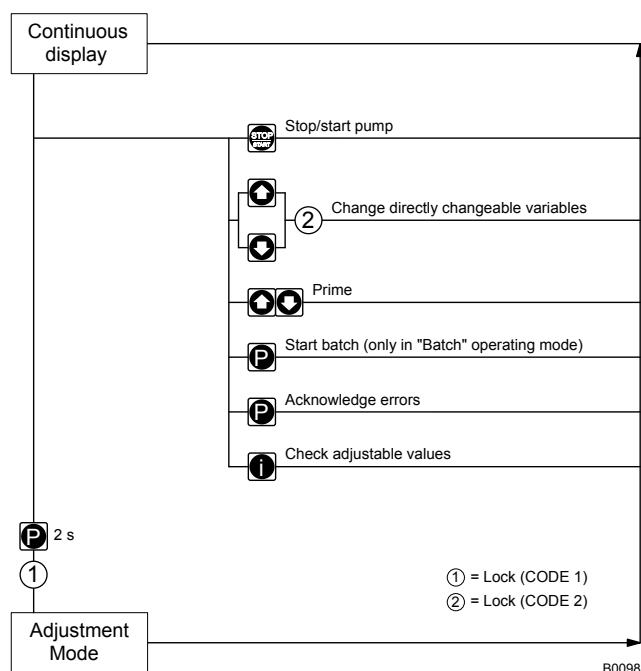

Fig. 38
- Select 'CODE 1', to block Setting mode (① in Fig. 38). In the next menu option, enter the number you want to use as the code.
- Select 'CODE 2', to block the option to adjust the directly changeable variables in the continuous displays (② in Fig. 38). In the next menu option, enter the number you want to use as the code.